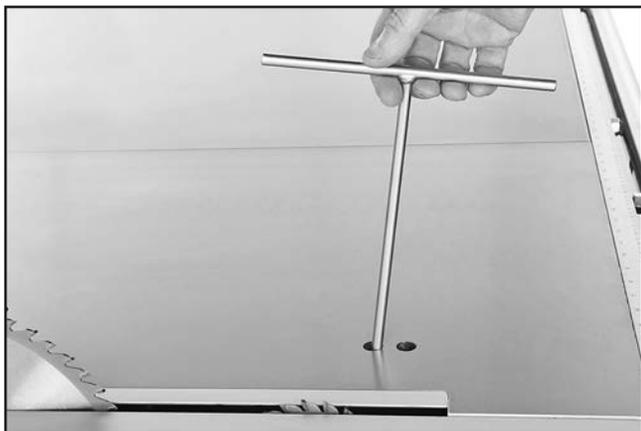

Figure 35. Lowering the scoring blade.
38. Insert the T-handle wrench into the left-hand hole of the two shown in **Figure 35**, engage it with the scoring blade elevation bolt under the table top, and rotate it counterclockwise to lower the scoring blade below the table surface.